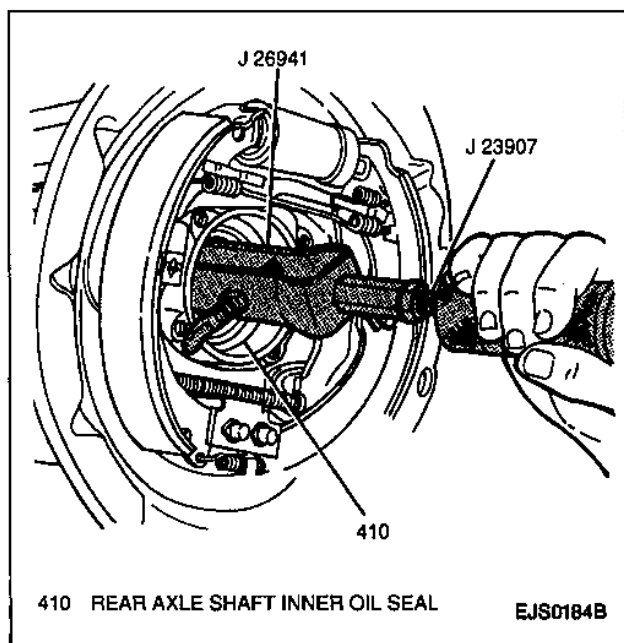

Figure 18—Removing Rear Axle Shaft Inner Oil Seal
8. Rear axle shaft inner oil seal from rear axle housing using a J 26941 with a J 23907 (Figure 18).